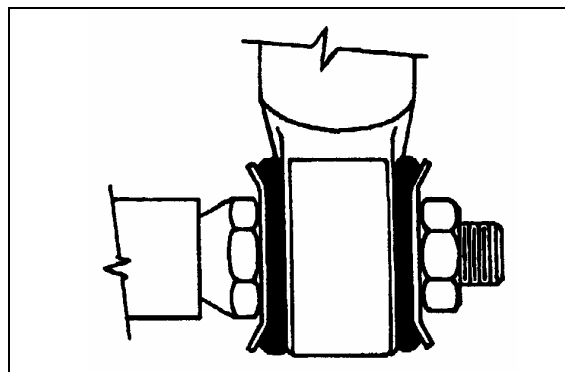

FIGURE 5: TYPICAL SHOCK ABSORBER SETUP
3. Place the inner washers (with washer convex side facing the shock absorber rubber bushing) on each shock absorber pin (Fig. 5).